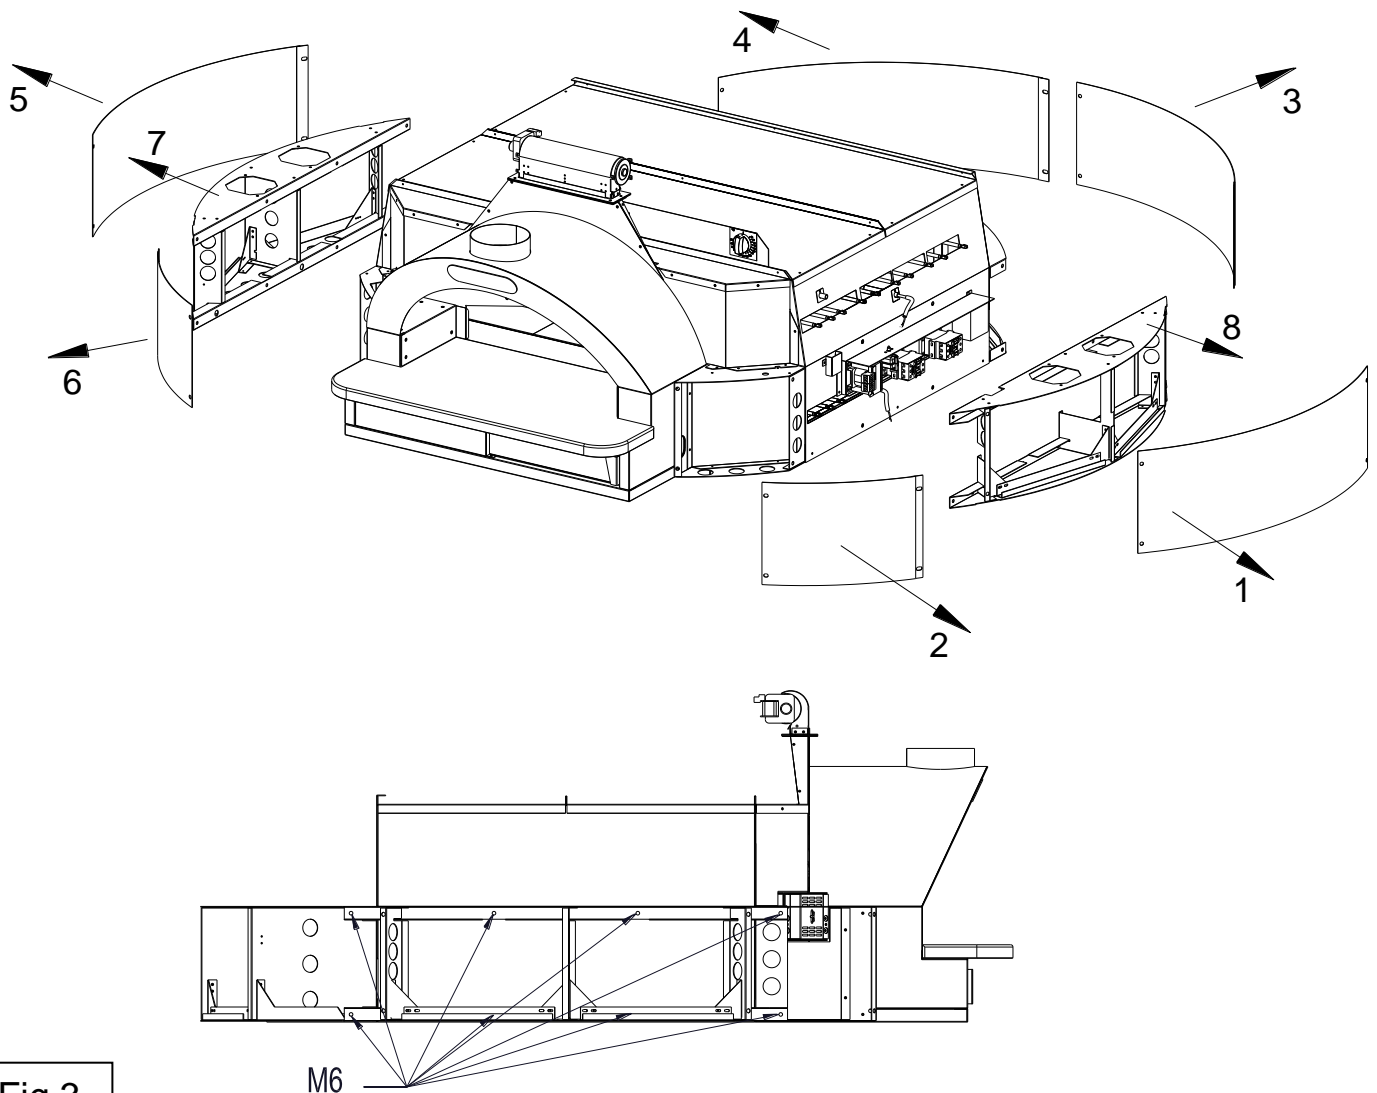

Fig.3
- 3- Remove the side and rear half-round covers following the sequence 1-2-3-4-5-6 (Fig. 3).
- 4- Remove the left and right side half-round parts following the sequence 7-8 (Fig. 3).